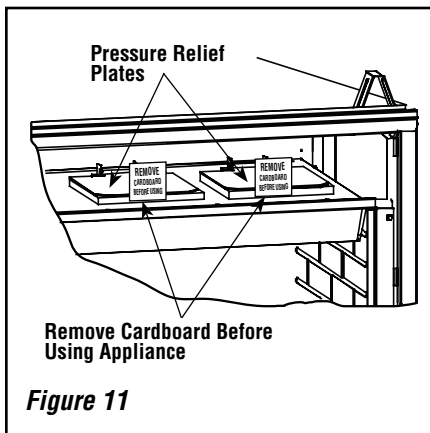

Figure 11
2. Remove Front Face Assembly (refer to **Figure 11**) by lifting and pulling straight out from the fireplace.